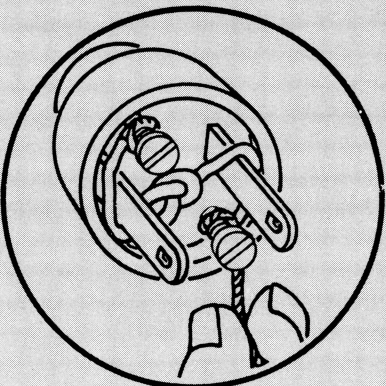

Fig. 9
9. Wrap the wire around the screw, clockwise. (Fig. 9).